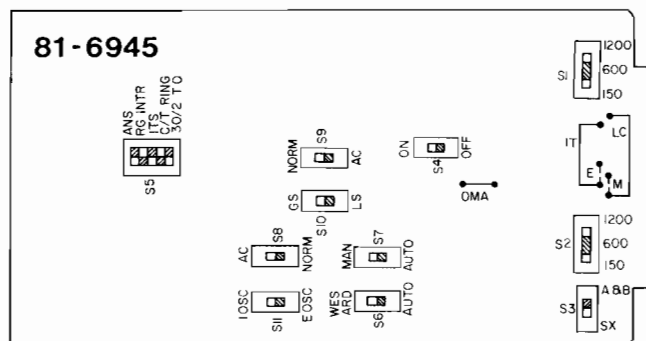

figure 3. Option switch locations
3.05 All frequently used options on the 6945 are selected via slide switches or DIP switches located on the module's printed circuit board as shown in figure 3. A small number of less frequently used options are implemented by means of wire straps, also shown in figure 3. Tables 4 and 5 list all switch options and strap options, respectively, and indicate the option choices, which are explained below. In addition, tables 6, 7, and 8 summarize the specific switch settings required to implement the 6945's local ringing, outgoing-ringdown-mode,